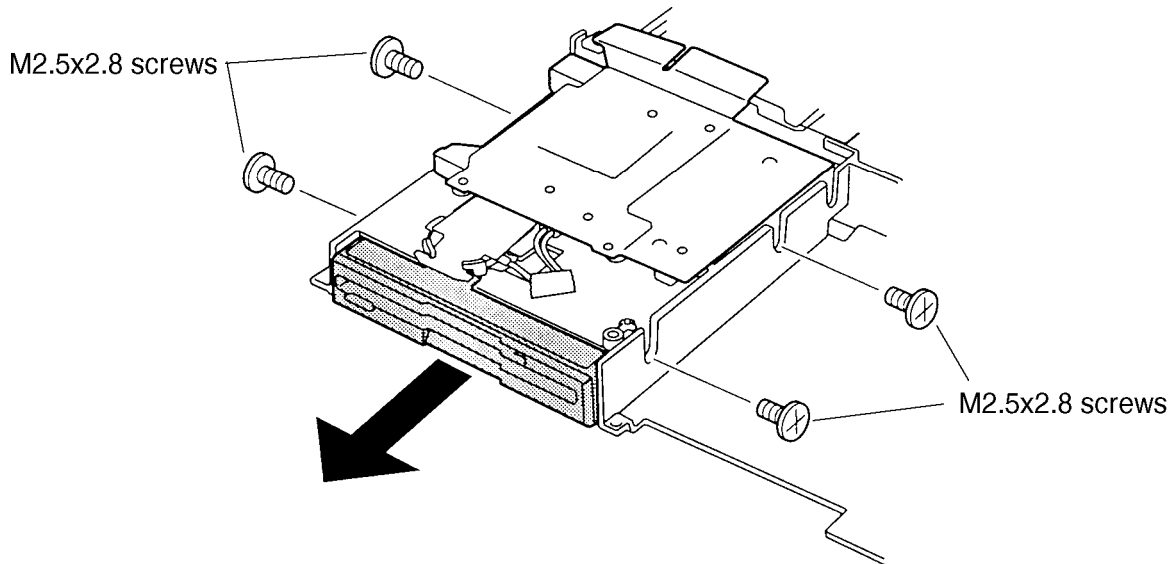

*Figure 4-32 Disconnecting the FDD cable*
To remove the T4900CT's floppy disk drive, follow the steps below and refer to figures 4-32 and 4-33.
3. Disconnect the **FDD cable** from **PJ304** of the lower system board and remove the tape (figure 4-32).
To install the T4900CT's floppy disk drive, follow the steps below and refer to figures 4-32 and 4-33.
3. Secure the **tape** and connect the **FDD cable** to the **pressure plate connector PJ304** on the lower system board (figure 4-32).